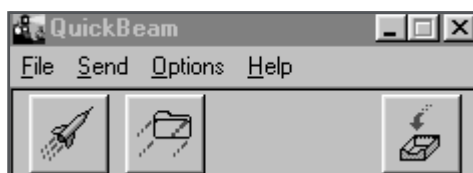

Figure 99: The QuickBeam Window
The screen shows a message indicating that the PT878GC is searching for an infrared device. (If the scanner finds no device, a window appears with this message, and asks if you want to try again.) If it finds a device, it sends another message indicating that it is uploading the site. (The meter also displays a message if the upload fails.) When the upload is complete, the meter returns to the Drive Manager. The PC holds the transferred file in the QuickBeam (IR) Inbox folder, as shown in *Figure 99*. You can open the file on the PC using any text editor.
- Click on the desired file, and drag it onto the rocket button in the QuickBeam window, as shown in Figure 99.